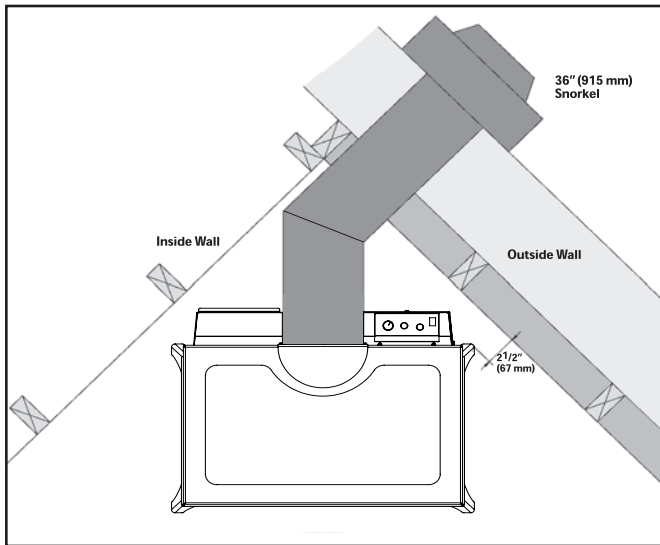

Figure 35: Corner installation rear vented with snorkel.
- Using tin snips, cut the "Support Box" from the top corners down to the roof line, and fold the resulting flaps over the roof sheathing (Figure 35). Before nailing it in to the roof, run a bead of non-hardening mastic around the top edges of the "Support Box", to make a seal between the box and the roof. Clean out any combustible material from the inside of the "Support Box".